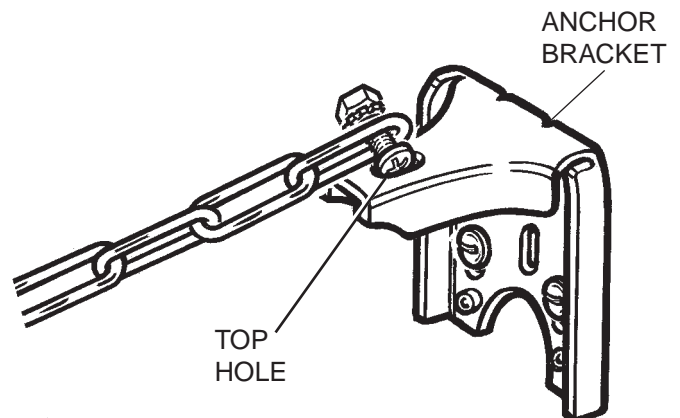

Figure 6 – securing the cooker
2. Insert the screwhead into the top hole of the anchor bracket by tilting it sideways so that it is at an angle to the top hole when it is inserted. (Figure 6).